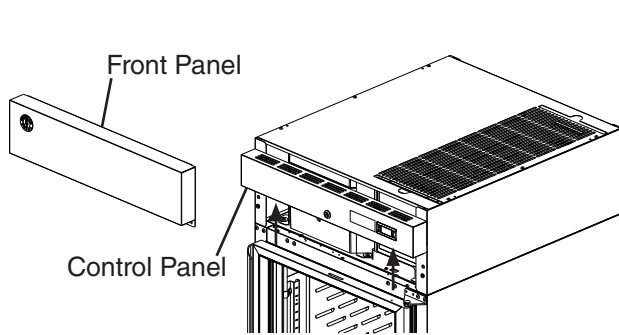

Fig. 37
- 2) Remove the front panel, then being careful not to pull the wires on the control module and door switch(es), remove the control panel. Secure the control panel so that it does not interfere with the hinge bracket and will not fall. See Fig. 37.